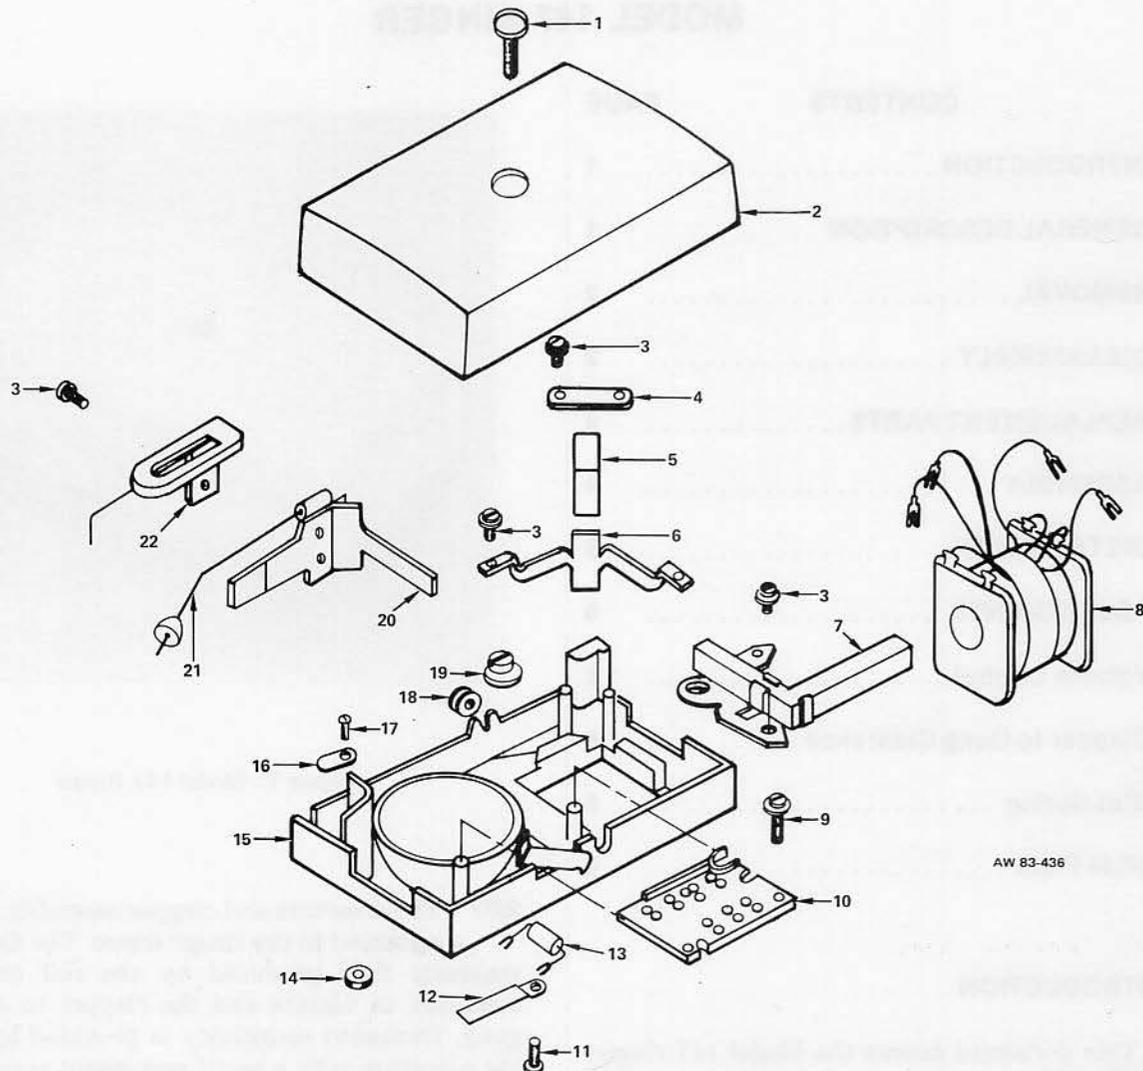

Figure 2: Model 147 Ringer, Exploded View
2.01 The Model 147 ringer (see Figure 2) is a miniature, single-gong, biased-type, frequency-selective, extension ringer equipped with a mechanical volume control and assembled on a die-cast frame with a beige-colored, molded plastic cover. A laminated soft-iron core holds the double-wound coil in place. Through the use of various clapper weights and capacitors, the ringer is tuned to ring at a specific frequency.